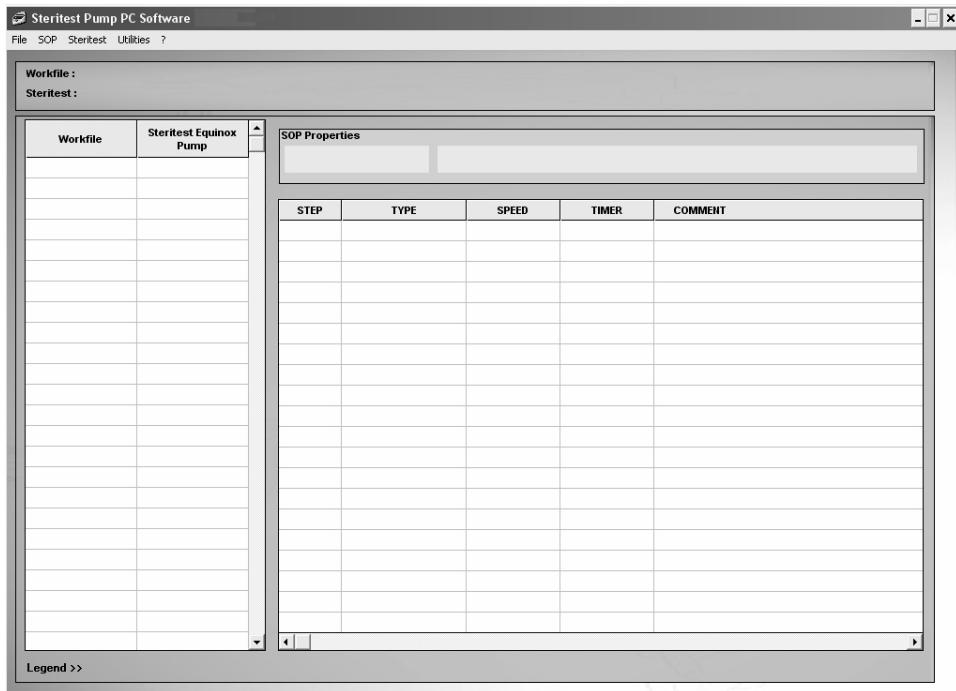

Figure 9: Steritest Main Window
4. Upon successful login, the Steritest main window displays (Figure 9).